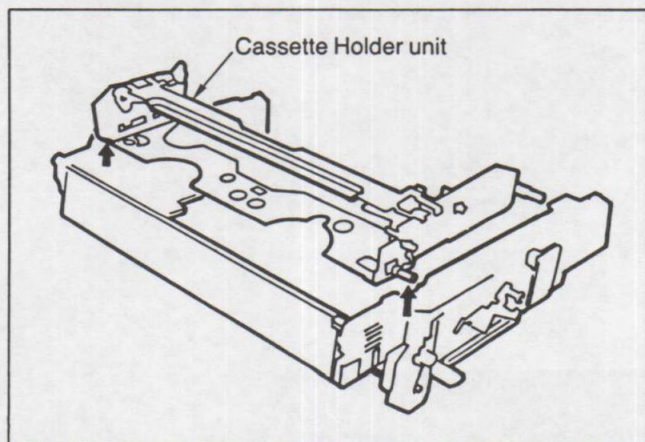

Fig. A22 Removal of Cassette Holder Unit
4. Take the cassette Holder unit out as shown in Fig.A22.
9. Reinstall the cassette holder unit as just the reverse way of item 4, Fig.A22.